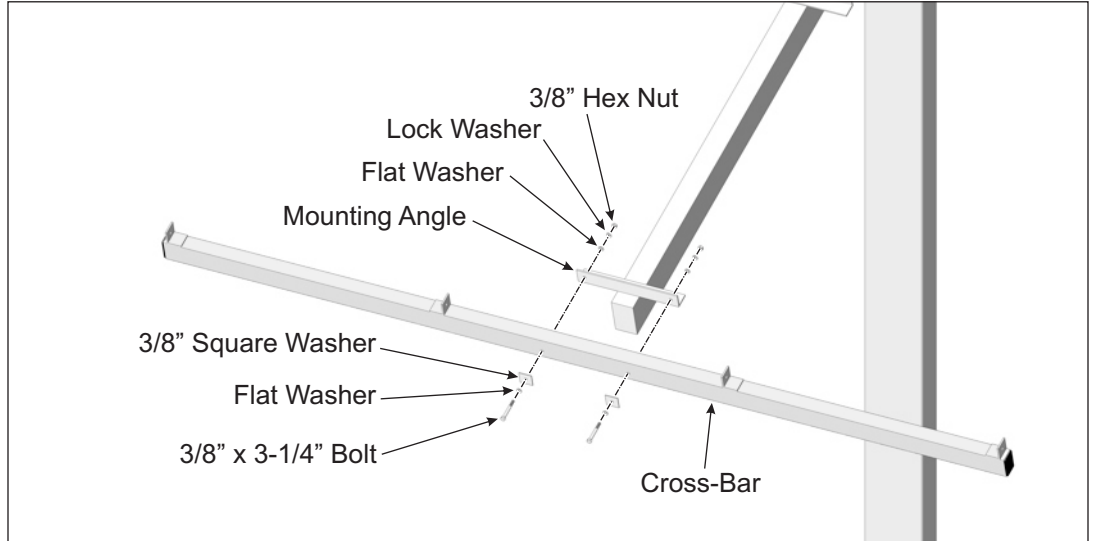

Figure 3-2: Installing Cross-Bars to Strongback
- A. Starting at the south location, position the Cross-Bar on the outside of the mounting angle of the Strongback. Align the mounting holes and secure using 3/8" flat and square washers along with the 3/8" x 3-1/4" bolts and lock washer placing the square flat washer against the Cross-Bar. Tighten hardware and **Torque to 30-32 ft.-lbs.** (See Figure 3-2)
B. Continue in this manner and install the remaining three Cross-Bars to the Strongback. Refer to Figure 3-2 as needed for proper positioning.